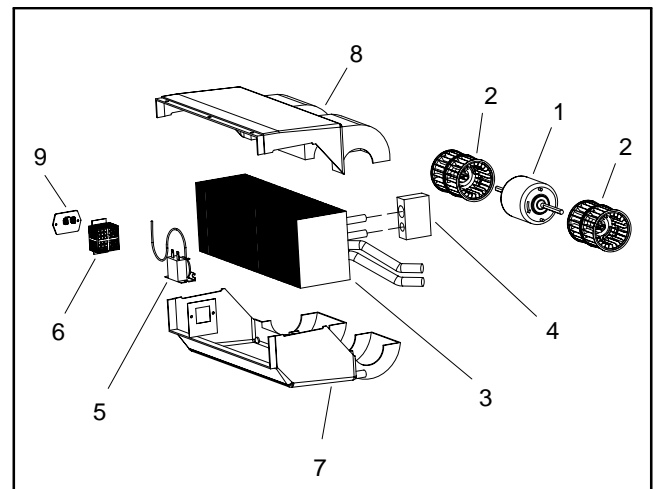

Figure 9
9. Disassemble heater/evaporator assembly using Fig. 9 as a guide.
1. Assemble heater/evaporator assembly using Fig. 9 as a guide. Make sure that expansion valve is covered with insulating tape to prevent condensation issues.